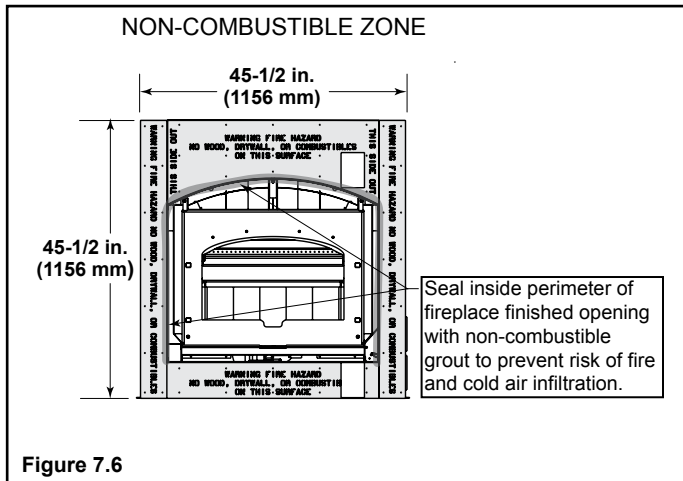

Figure 7.6
- A bead of non-combustible sealant (or Super Calstick) must be used to close off any gaps at the top and sides between the fireplace and non-combustible facing (Figure 7.6) to prevent cold air leaks and the risk of fire. Large gaps can be bridged with fiberglass rope gasket.